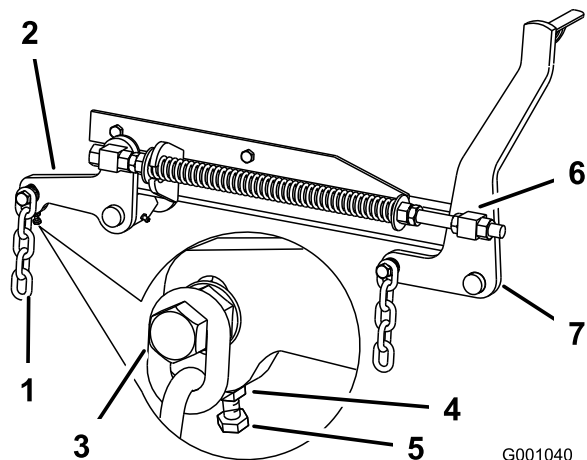

Figure 82
- If the measurements at positions **B** or **C** are not correct, loosen the bolt attaching the rear chain to the rear support arm (Figure 82).
- Loosen the jam nut under the rear support arm and adjust the adjustment bolt to get a measurement of 3-1/8 to 3-1/4 inches (80 to 83 mm) (Figure 82).
- Loosen the front swivel jam nuts, at the front of the right and left swivels, approximately a 1/2 inch (13 mm) (Figure 82).
- Adjust the lift nuts on both the left and the right side of the machine to achieve 1/4 to 3/8 inch (6 to 10 mm) lower in front at **A** than in the rear at **B** (Figure 82).